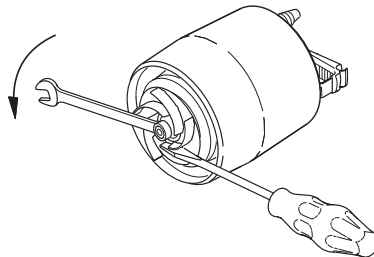

Fig. 14 How to remove the impeller
6. Unscrew the nut (cross width 13 mm) from the motor shaft. Use a screwdriver to prevent the impeller from turning. See fig. 14.